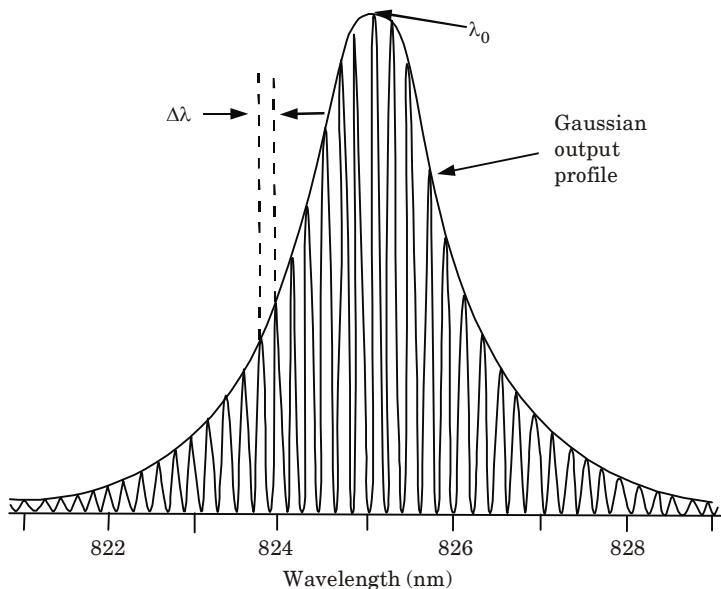

Fig. 3.16.1. Typical spectrum from a Fabry-Perot GaAs/GaAs Laser diode.
7. The output spectrum of a multimode laser follows the typical gain versus frequency plot given in Fig. 3.16.1 where the exact number of modes, their heights, and their spacing depend on the laser construction.